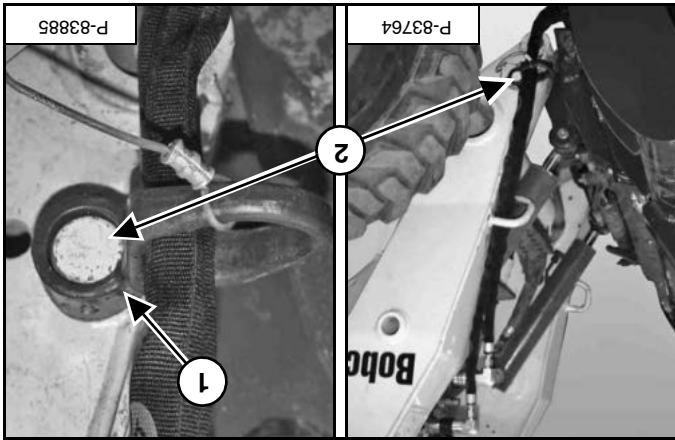

Figure 49
Install the removable hose guide (item 1) onto the mounting post (item 2) [Figure 49] located on the side of the loader lift arm.